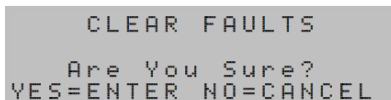

Figure 8-13: Clear Faults screen
2. The screen in Figure 8-13 displays.